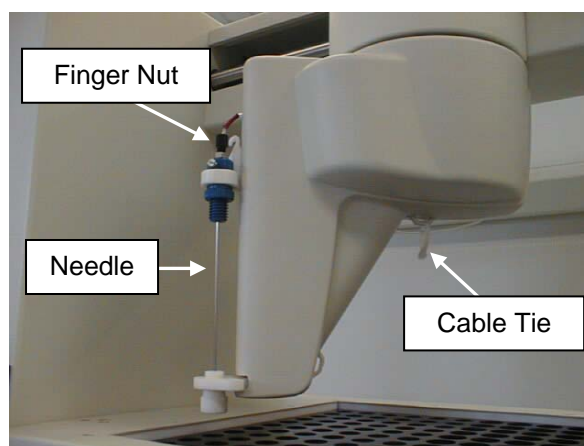

Figure 1.7.1.2
4. The tube labelled with the yellow band should be connected to the right hand port of the autosampler syringe valve. From the PL-GPC 50 Plus run the tube around the back of the autosampler to the syringe valve passing through the cable tie on the rear of the autosampler, as shown in figures 1.7.1.3 and 1.7.1.4. Connect the tube to the valve by gently tightening the finger nut.